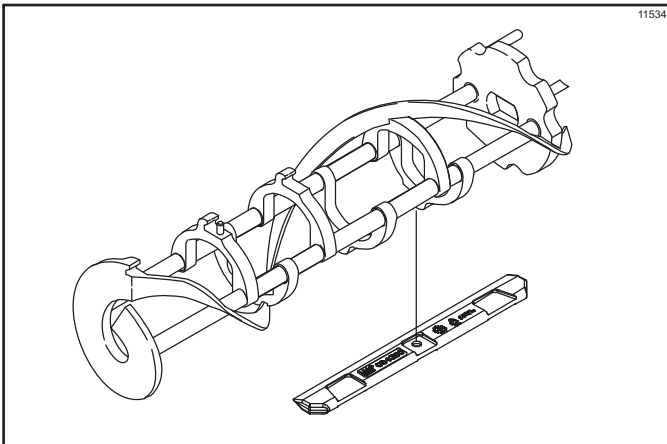

Figure 6-4
- If the blades are in good condition, install the scraper blade over the rear holding pin on the beater. (See Figure 6-4.)